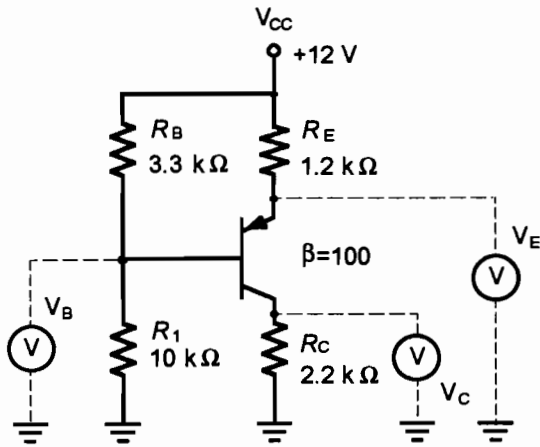
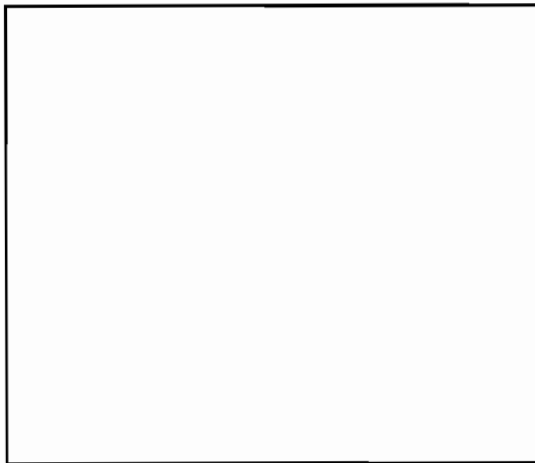

Figure 16.1
Figure 16.2
1. Construct the circuit of Figure 16.1.
2. Apply circuit power, measure and record the DC values Table 16.1, paying close attention to Figure 16.1.
3. Turn off circuit power. In the area labeled Figure 16.2, redraw the circuit of Figure 16.1 right side up. Shift the circuit ground to the positive terminal of the power supply.
4. Construct the circuit you drew in Figure 16.2. Be sure to check your power supply connections carefully.
1. Construct the circuit of Figure 16.1. Check your circuit to ensure proper operation. Turn off circuit power. Remove the 10-k $\Omega$   $R_1$  and replace with a 2.2-M $\Omega$  resistor.
2. Because the circuits of Figure 16.1 and your circuit of Figure 16.2 had the same values of  $I_C$  and  $V_{CE}$ , the values of the base-emitter voltage and the voltage from collector to emitter were the same. Identify other voltages and currents that were the same in the two circuits.
3. In the circuit of Figure 16.1, the bias is:
4. The quiescent operating point of the circuit of Figure 16.1 would depend on the transistor beta.